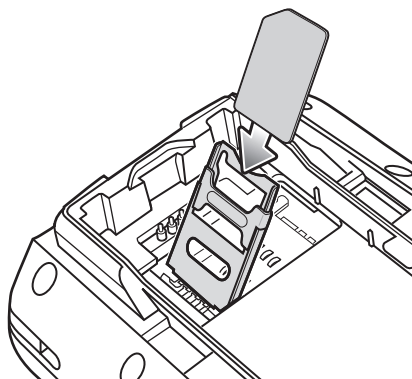

Figure 1-4 *Inserting the SIM Card*
2. Insert the SIM card, as shown in Figure 1-4, with the cut edge of the card facing out and the contacts facing down.